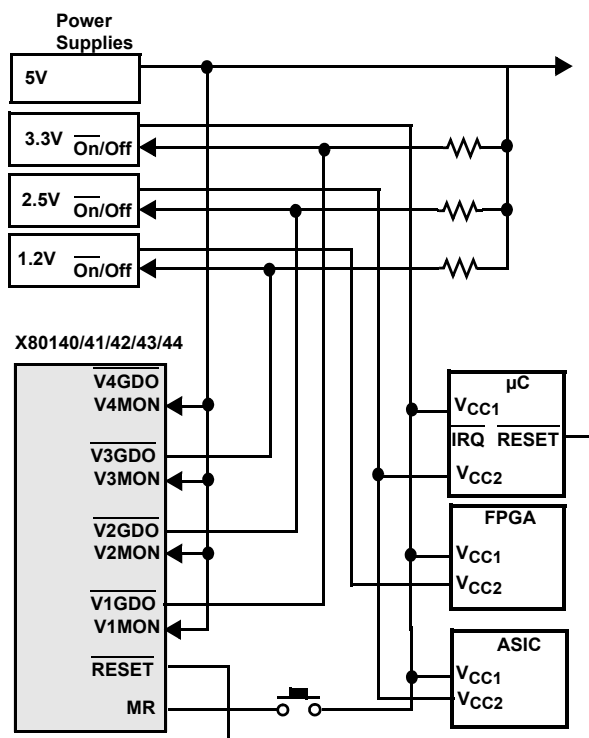
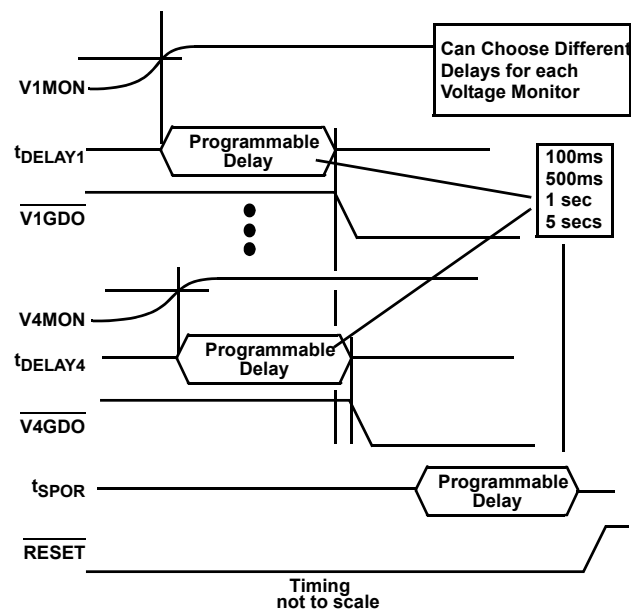

FIGURE 7. EXAMPLE APPLICATION OF PARALLEL POWER CONTROL
FIGURE 8. PARALLEL POWER CONTROL - TIMING
1. Power Up of Supplies In Parallel Using Programmable Delays. (See Figure 7 and Figure 8).